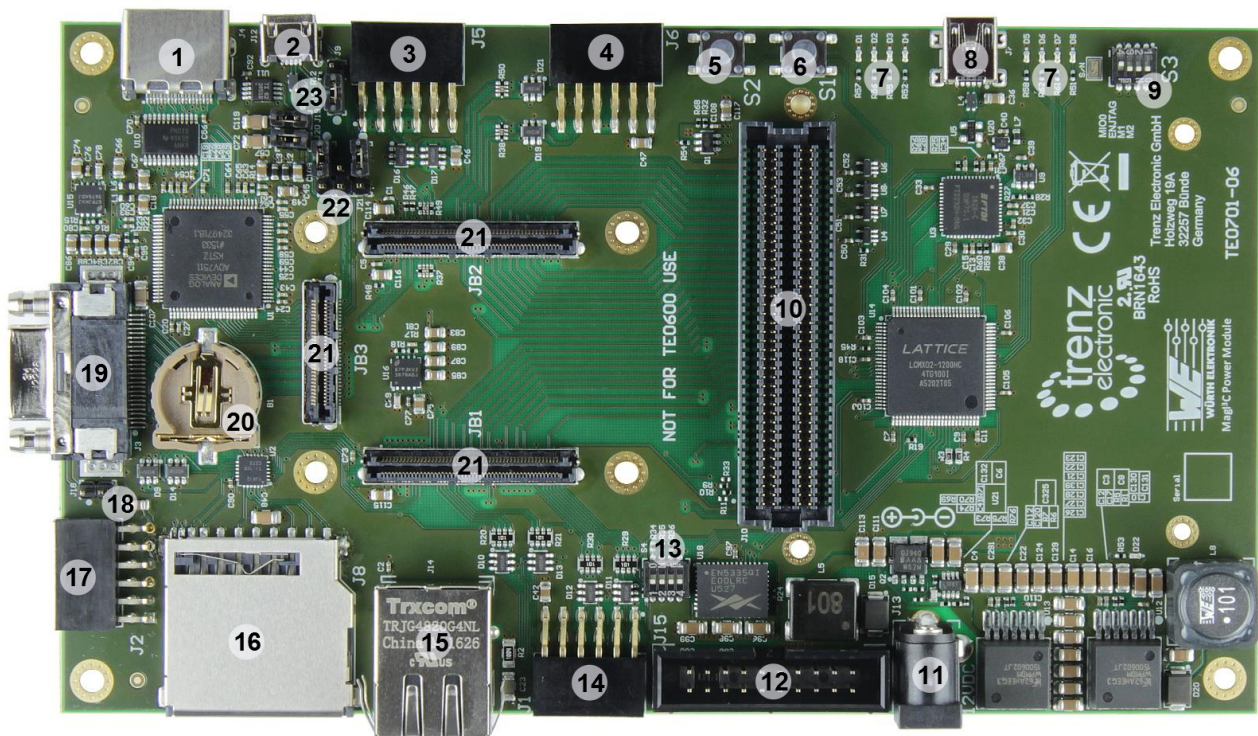

Figure 1: 4 x 5 SoM carrier board TE0701-06
Additionally, on the TE0701 Carrier Board there is a 4-bit DIP-switch (S3; see (9) in Figure 1) available. The default S3 switch mapping is as follows: